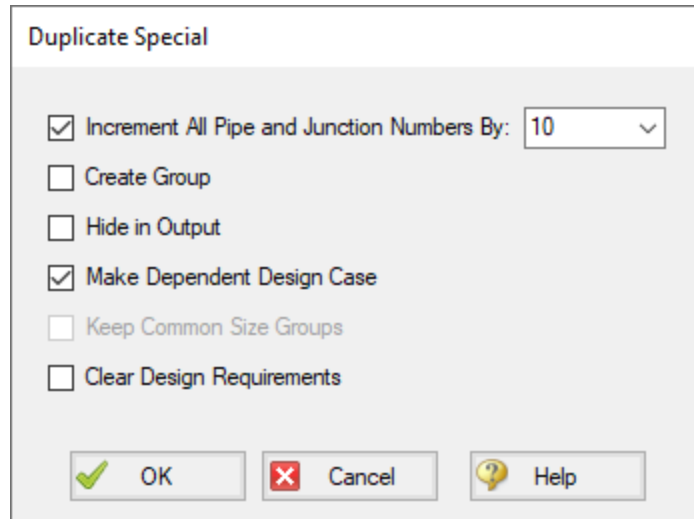

Figure 6: Duplicate Special settings to create a dependent design case
4. Open Duplicate Special (from the Edit menu), enter an increment of 10 and select Make Dependent Design Case (Figure 6). Click OK.